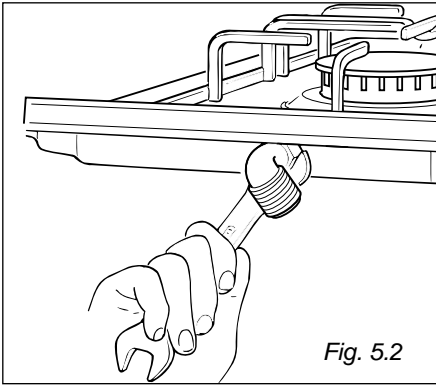

Fig. 5.2
- ✓ Never attempt to turn the fitting C without having first slackened off the relative lock nut (fig. 5.2).